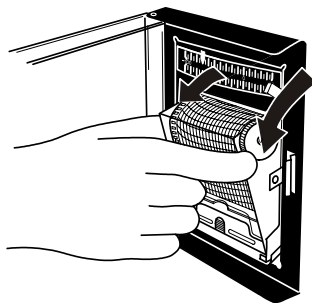

Fig. 1
1. Open the door and let down the lever of the penholder; the pen point is apart from the chart. (Fig. 1)